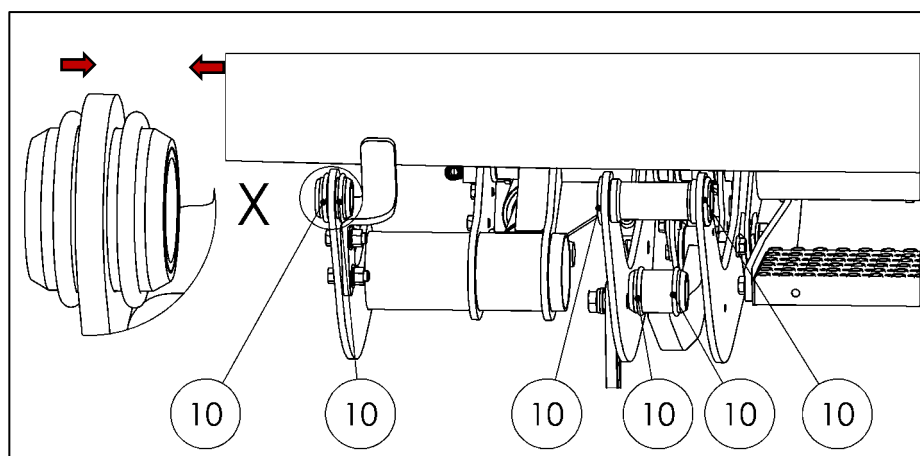

Fig. 51
- Thread 6 O-rings (accessories kit parts list – Item No. 10) onto the steel bushings (see Fig. 51).